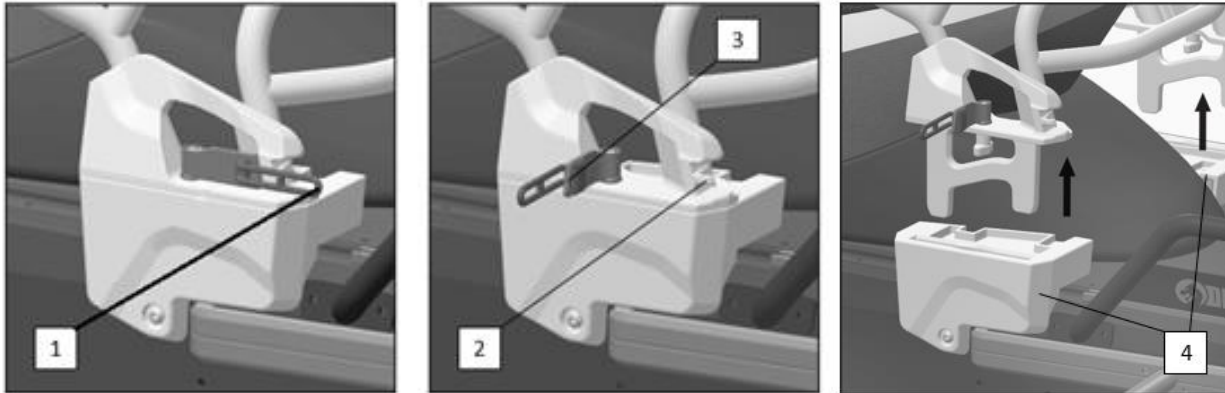

Fig. 25
3. Remove the rubber clips from the left and right hooks of the backrest base (posture 1, Figure 25) (posture 2, Figure 25);
4. Rotate the lock (position 3, figure 25) to 90 ° on the left and right of the backrest;
6. Lift the backrest from the armrest and release it from the left and right brackets at the same time (posture 4, Figure 25).